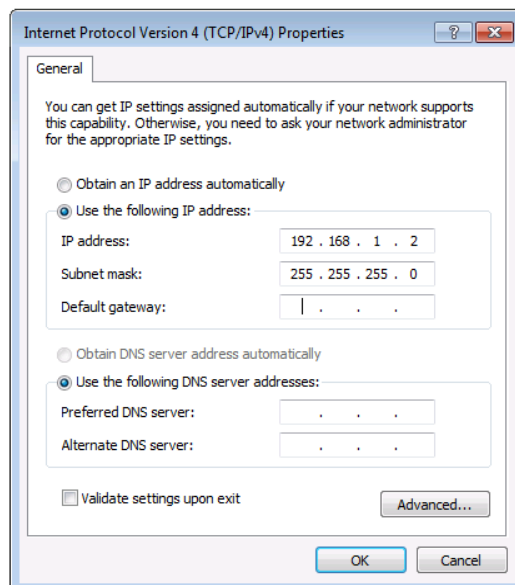

Figure 10: Internet Protocol Properties Window
6. Select **Use the following IP Address** for static IP addressing and enter the details as shown in Figure 10.